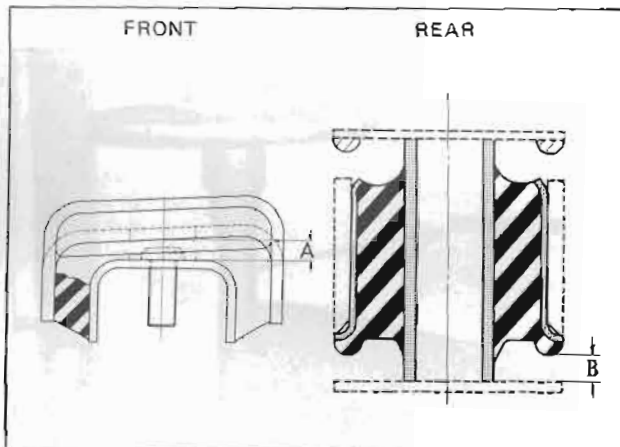

Fig. RA-7 Sectional view of the differential mount insulator
- Replace the differential mount front insulator with a new one, if the dimension "A" (Figure RA-7) is 9 mm (0.3543 in) or greater, 2 mm (0.0787 in) or smaller. (unloaded)
- Replace the differential mount rear insulator with a new one, if the dimension "B" (Figure RA-7) is less than 5 mm (0.1969 in). (unloaded)